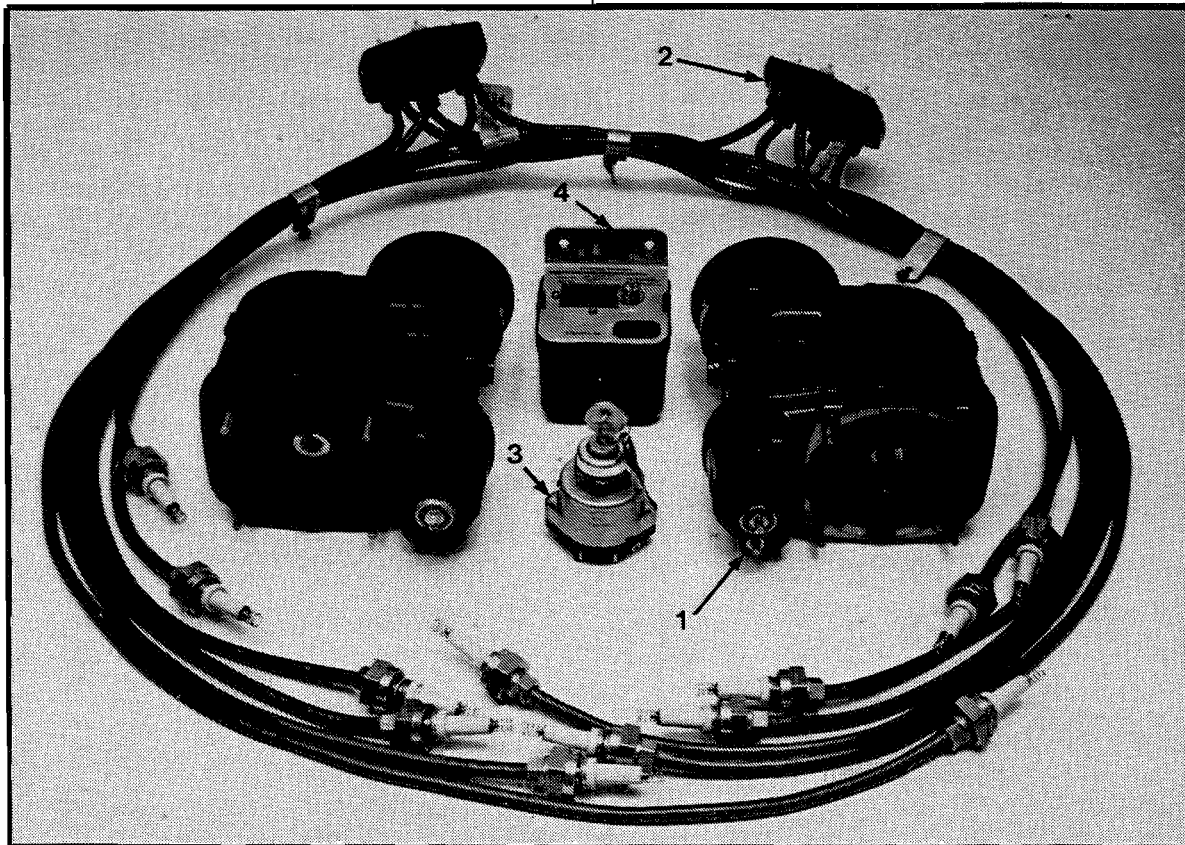

Figure 201. S-1200 Magneto and Associated Components
- B. To obtain the retard spark necessary for starting, these magnetos employ either an impulse coupling or an additional contact assembly used in conjunction with a starting vibrator. Figure 201 shows the components used in a typical S-1200 Ignition System incorporating a starting vibrator. This system consists of a single contact assembly magneto, a dual contact assembly magneto (item 1), an ignition harness (item 2), a combination ignition and starter switch (item 3), and a starting vibrator (item 4).
- (1) "S" indicates type ignition unit.
- (2) "4", "6" or "8" indicates number of cylinders fired.
- (3) "R" or "L" indicates direction of rotation of rotating magnet viewed from drive end; R for right-hand, L for left-hand.
- (4) "N" indicates manufactured by TCM.
- (5) The dash number (such as -1201) indicates a certain execution of the basic type magneto.